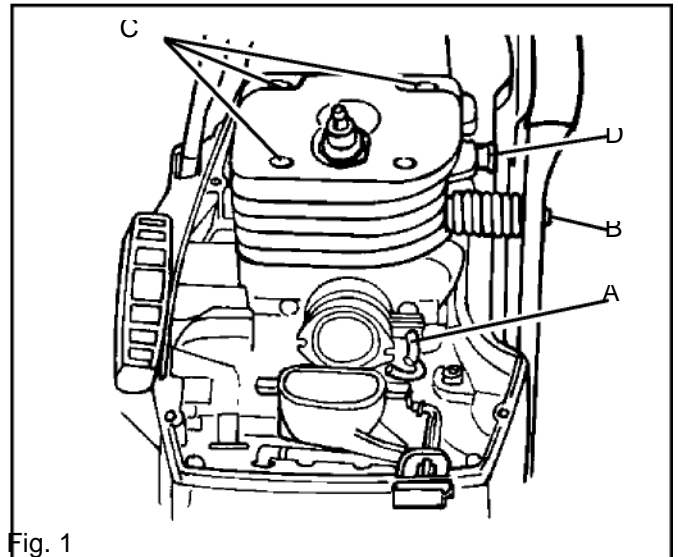
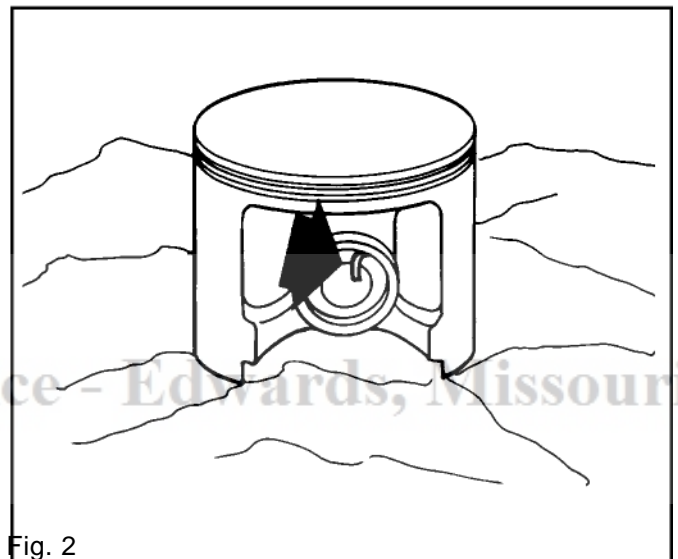

Fig. 1
Fig. 2
3. Disconnect the throttle cable (A) from the carburettor and push out the cable outer from its location. See fig. 1.
4. Remove the fuel pipe (B) from the carburettor.
6. Remove the bolts (C and D) and the travel limiter bolt (E) on the clutch side. See fig. 2.
2. Detach the springs from the cylinder with the help of a 4 mm Allen key. See fig. 1.
3. Detach the springs from the tank unit with service tools 502 52 18-01 and 502 52 18-02. See fig. 2.
2. Attach the springs to the cylinder with the help of a 4 mm Allen key. See fig. 1. Tighten the bolts to 10 Nm.
2. Remove the impulse hose (A) from the hole on the inlet manifold. See fig. 1.
3. Detach the anti-vibration springs (B) from the cylinder. See fig. 1.
4. Undo the four cylinder retaining bolts (C). See fig. 1.
6. Cover the crankcase opening immediately with paper or clean rag. See fig. 2.
7. Remove one of the piston circlips, press out the gudgeon pin and remove the piston. See fig. 2.
9. Unscrew and remove the decompression valve (D). See fig. 1.